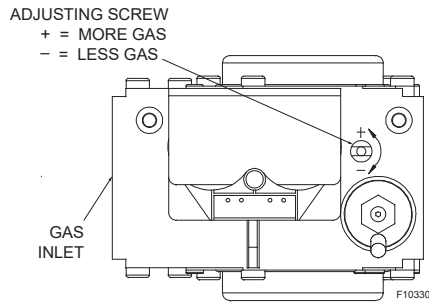

Figure 41. Gas Valve
3. To decrease the manifold pressure and decrease the ratio of fuel to air turn the adjustment screw clockwise (toward the -) (See **Figure 41**). Decreasing manifold pressure will reduce the CO2 percentage in the flue gases.